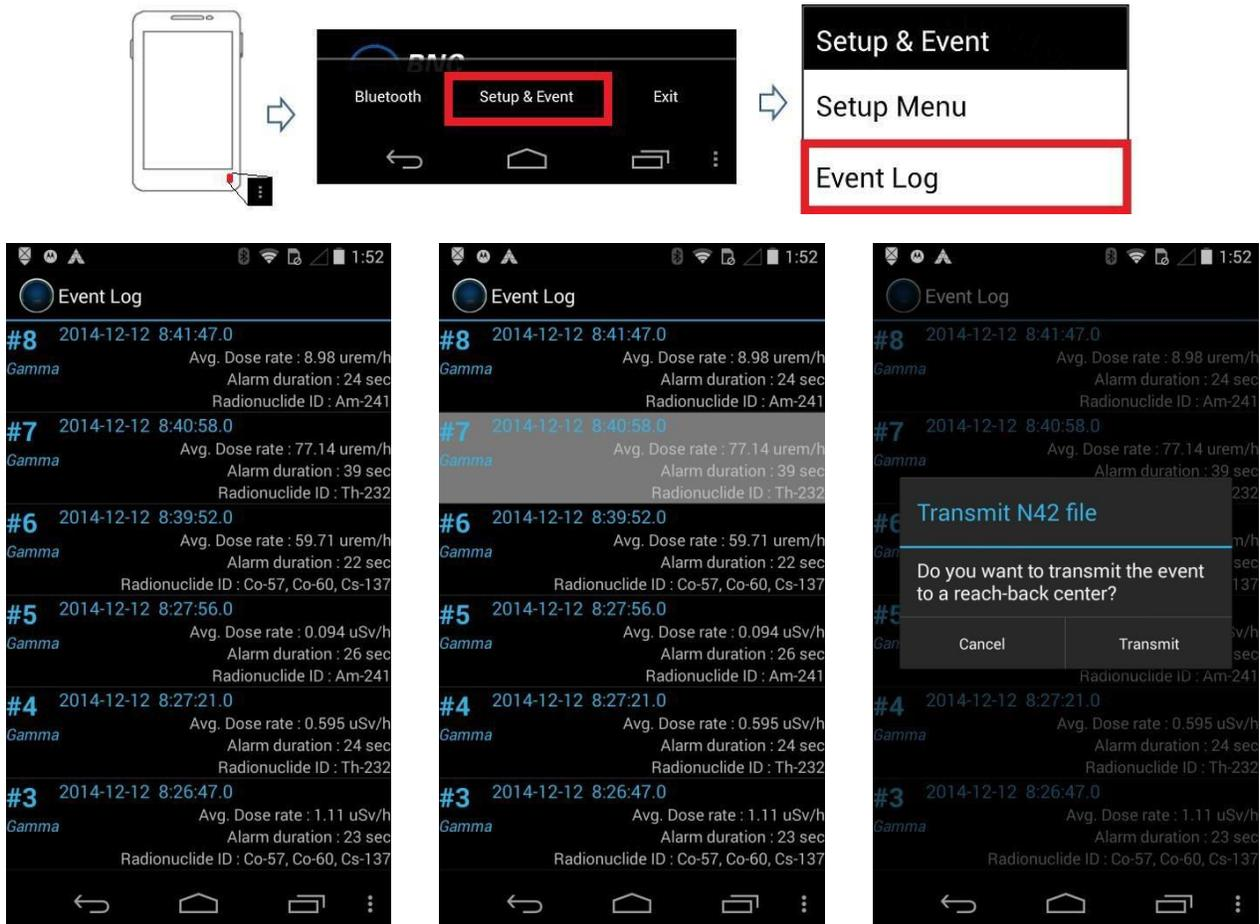

Figure 4.33. Wireless data transmission example
- a. Open the Event Log list (Figure 4.33, top)
- b. To select an Event Log from the list, touch and hold it for two seconds (Figure 4.33, lower left and center)
- c. At the “Transmit N42 file” prompt, touch **Transmit** (Figure 4.33, lower right)